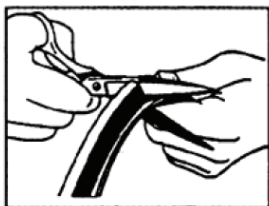

Figure 11
1. Cut the V-ring seals so the cross section surfaces are even. The cut should be made with a large pair of sharp scissors or a sharp knife (band saw for E profile). Prior to the cutting procedure, clean the cutting blade with MEK (Figure 11).